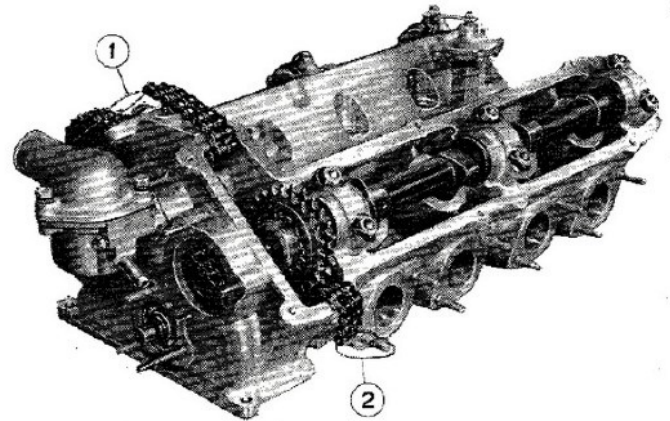

Fig. 38. - Camshaft drive chain opened.
- Take off the link retainer, remove the link and secure chain free ends with two pieces of wire (fig. 38) so that it cannot fall into the timing gear case.